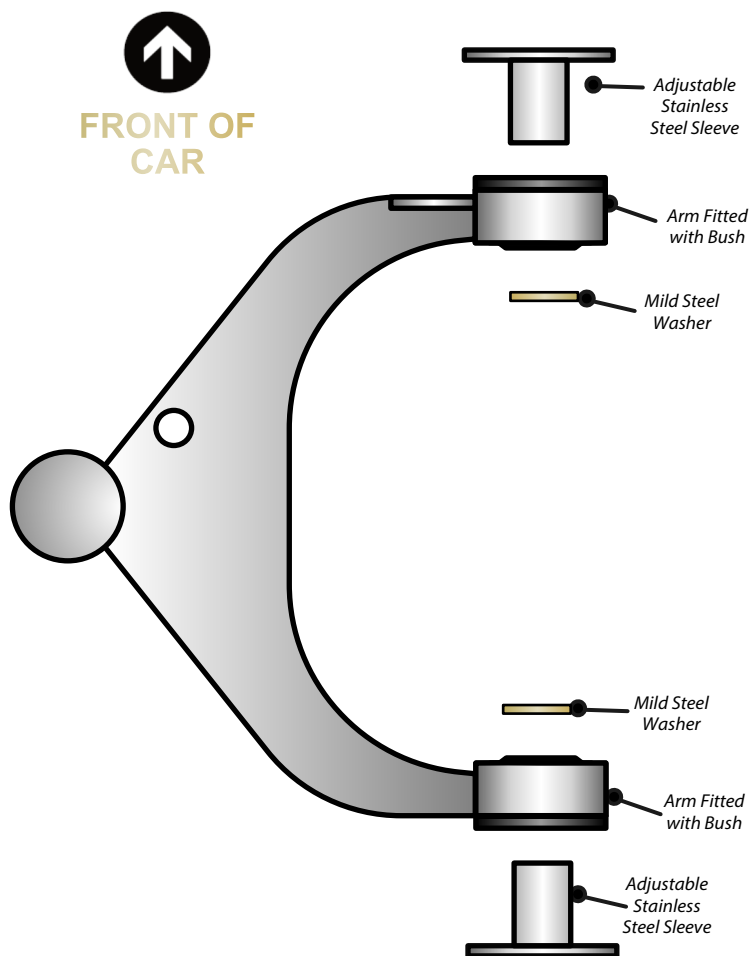

Figure 2
2. Apply the supplied grease to the knurled bore and end faces of the polyurethane bushes, and insert the camber adjustable stainless steel sleeves facing the outside of the arm (see fig. 2).